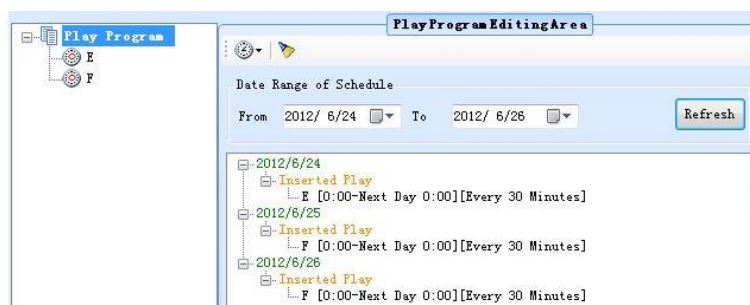

Fig. 10-15 F has higher priority than E
- Otherwise, if E is at the back of F in the play program, then E has the priority to be played on time confliction. The dispatching results will be shown as Fig. 10-15.